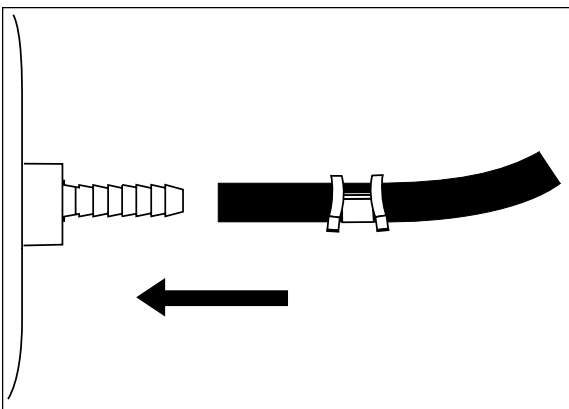

Figure 4
- h. Push the air line onto the stem, covering all the barbs (Figure 4).
- e. Push the air line onto the stem, covering all the barbed section (Figure 4).
- f. With pliers slide the air line clamp down until it fully covers barbed section (Figure 4).